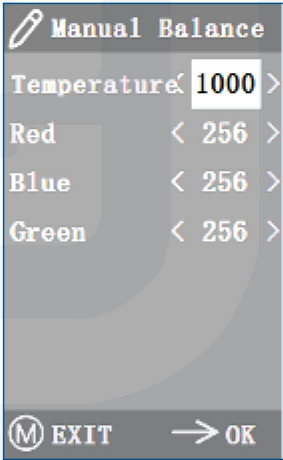

Figure 5-2
- When the effect of automatic white balance is not ideal due to the difference of color temperature between different light sources, manual white balance can be used to adjust the parameters of color temperature, R, G and B respectively. This is shown in Figure 5-2